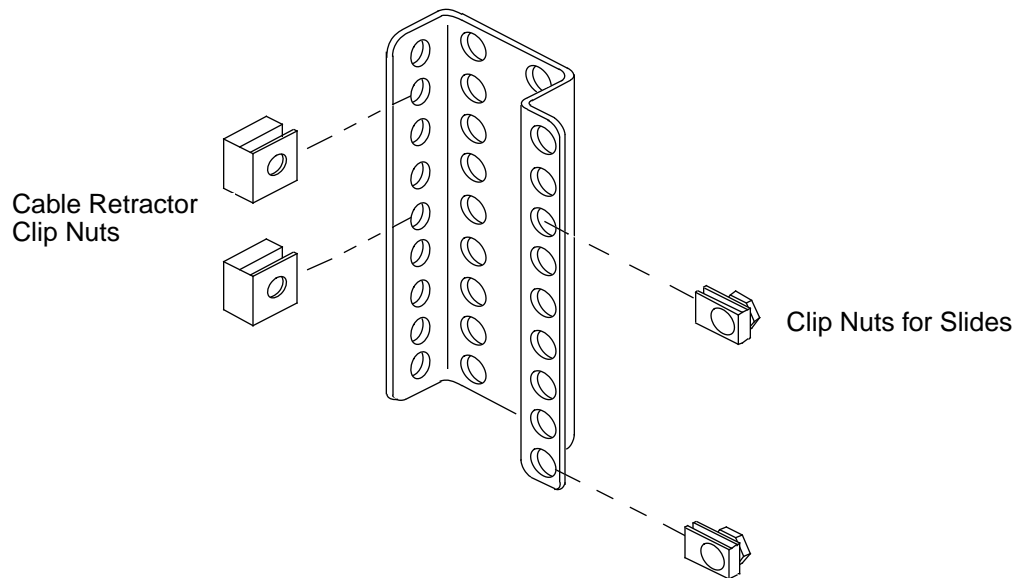

Figure 1. Clip Nut Locations on Chassis Slide
2. Place four large clip nuts (P/N 90141400) on each side of the cabinet (Refer to Figure 1); there are eight clip nuts that will be used for installing the tray slides.
- a. Place a clip nut into the 4th hole up from the clip nut of the last drive tray slide. Refer to Figure 1.
- b. Install the upper clip nuts into the 5th hole above the lower clip nut. Refer to Figure 1.